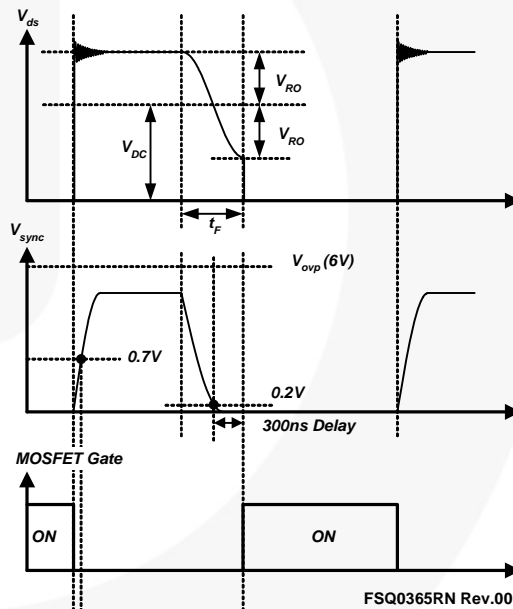

Figure 22. Valley Resonant Switching Waveforms
**3. Synchronization:** The FSQ-series employs a valley switching technique to minimize the switching noise and loss. The basic waveforms of the valley switching converter are shown in Figure 22. To minimize the MOSFET's switching loss, the MOSFET should be turned on when the drain voltage reaches its minimum value, as shown in Figure 22. The minimum drain voltage is indirectly detected by monitoring the  $V_{CC}$  winding voltage, as shown in Figure 22.